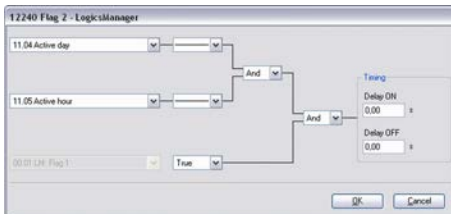

Fig. 178: LogicsManager function "Flag 2"
2. ➤ Configure the LogicsManager function "Flag 2" (parameter 12240 ↪ p. 376) as shown in (Fig. 178).